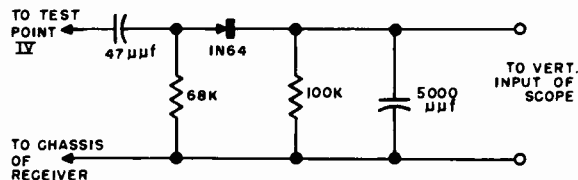

FIG. 3. 4.5Mc DETECTOR NETWORK
2. Connect detector network (Figure 3) to Test Point IV and set contrast to maximum. Connect oscilloscope to network.